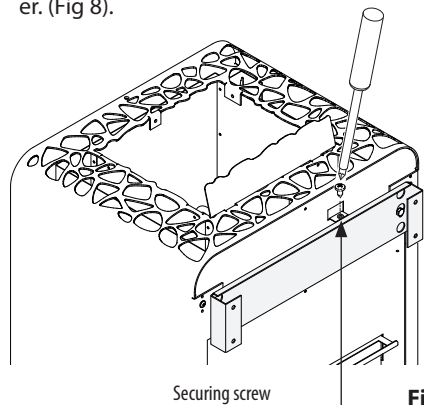

Fig. 8
- Secure the sauna heater to the wall bracket by inserting a sheet-metal screw through the hole positioned at the rear edge of the heater. (Fig 8).